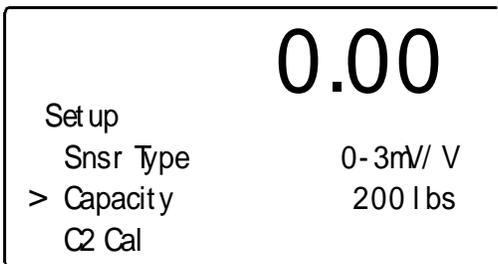

FIG. 2-4 TRADITIONAL CALIBRATION/ZERO VALUE
Step 7. Press the "-" button until the cursor is in front of "Capacity". (See Fig. 2-4)